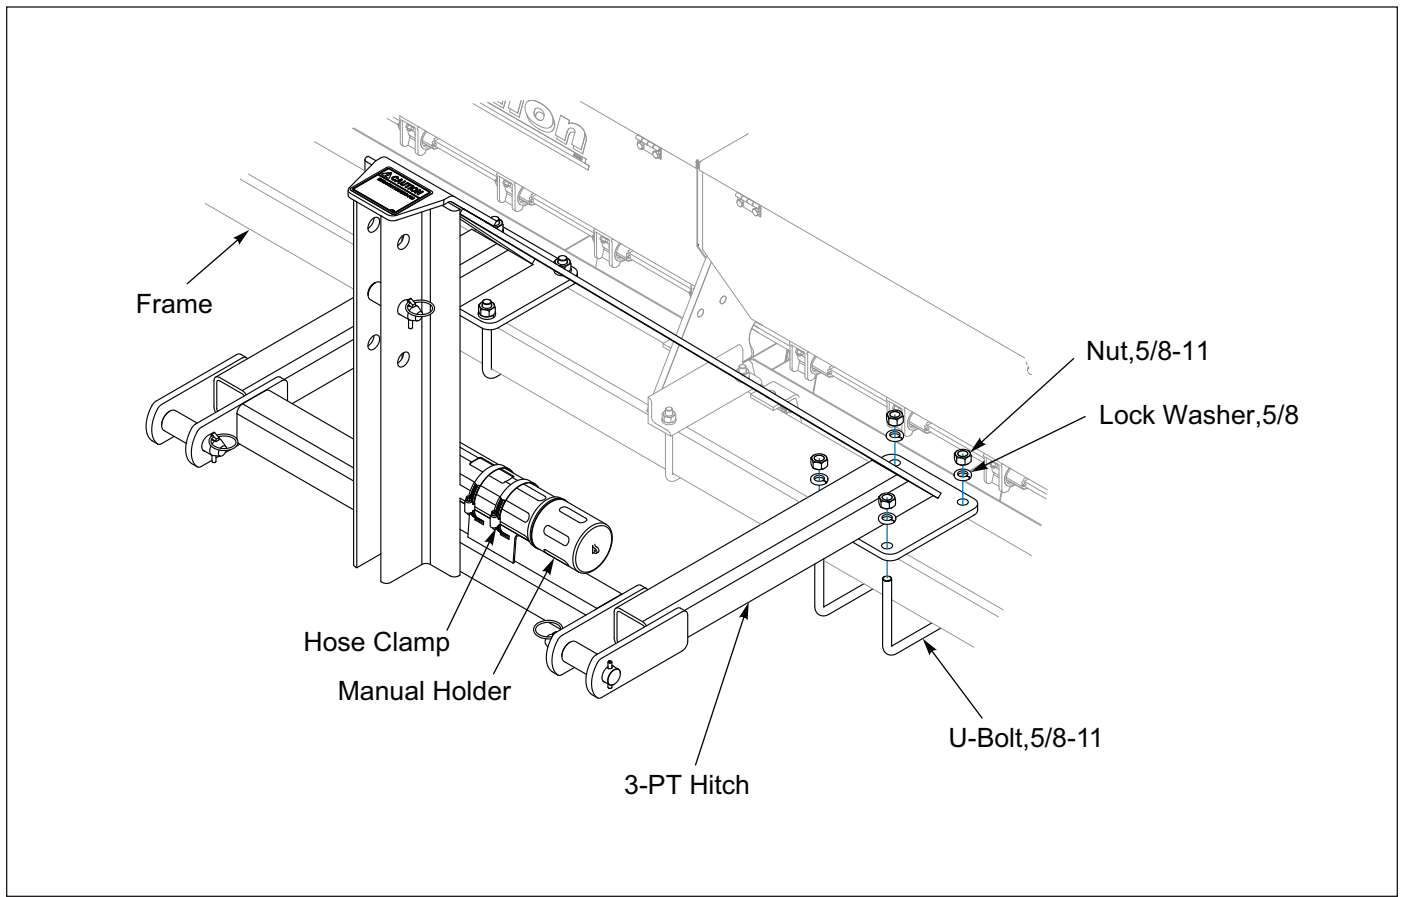

Figure 2-4: Attach 3-PT Hitch
2. Center 3-PT Hitch Assembly in relationship with the Seed Box Center Bracket. Attach 3-PT Hitch to Seeder Frame Tube with 5/8-11 U-Bolts, Lock Washers and Nuts. **See Figure 2-4.**